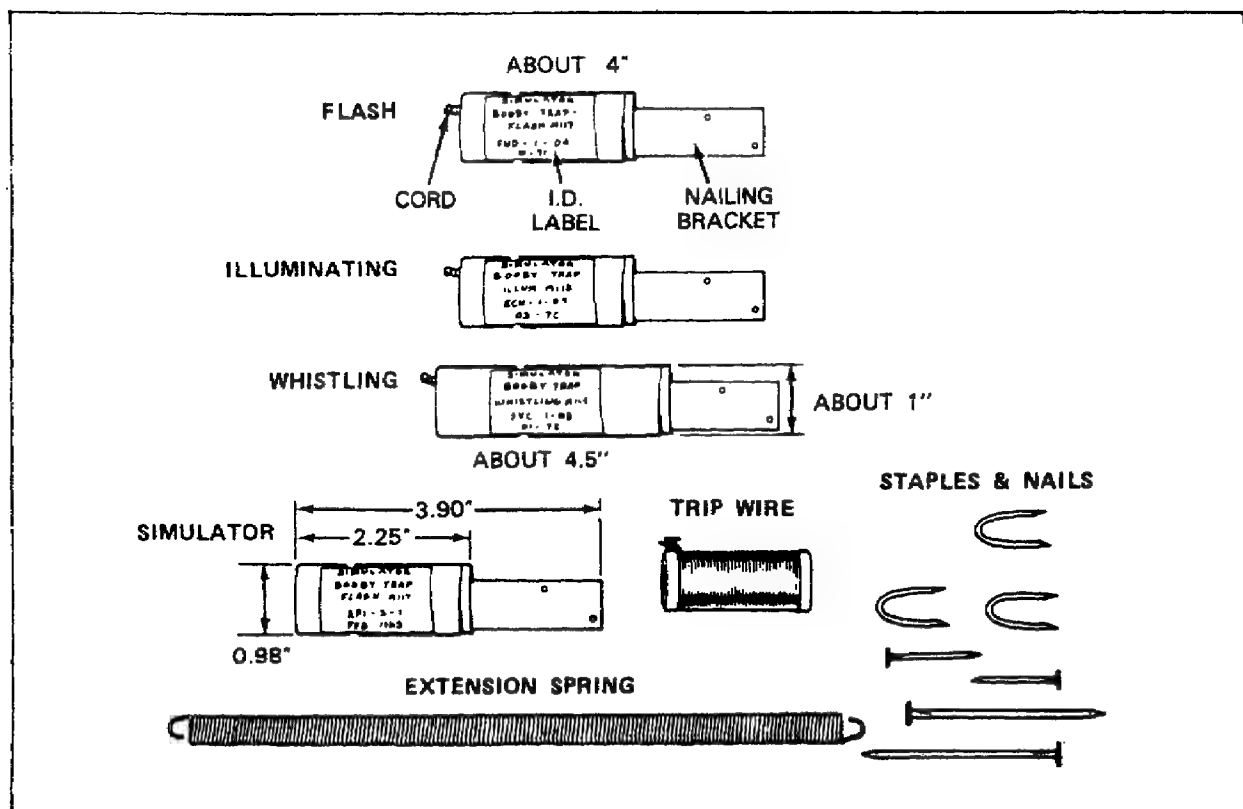

Figure 107. Booby Trap Simulators: Flash, Illuminating, and Whistling.
**Booby Trap Simulators.** Booby trap simulators are used to train troops in the installation, detection, and use of booby traps. These simulators are also used to instill caution in troops exposed to booby traps. Three different types of booby trap simulators are issued: flash, illuminating, and whistling. See Figure 107. Note that all three types are approximately the same size.